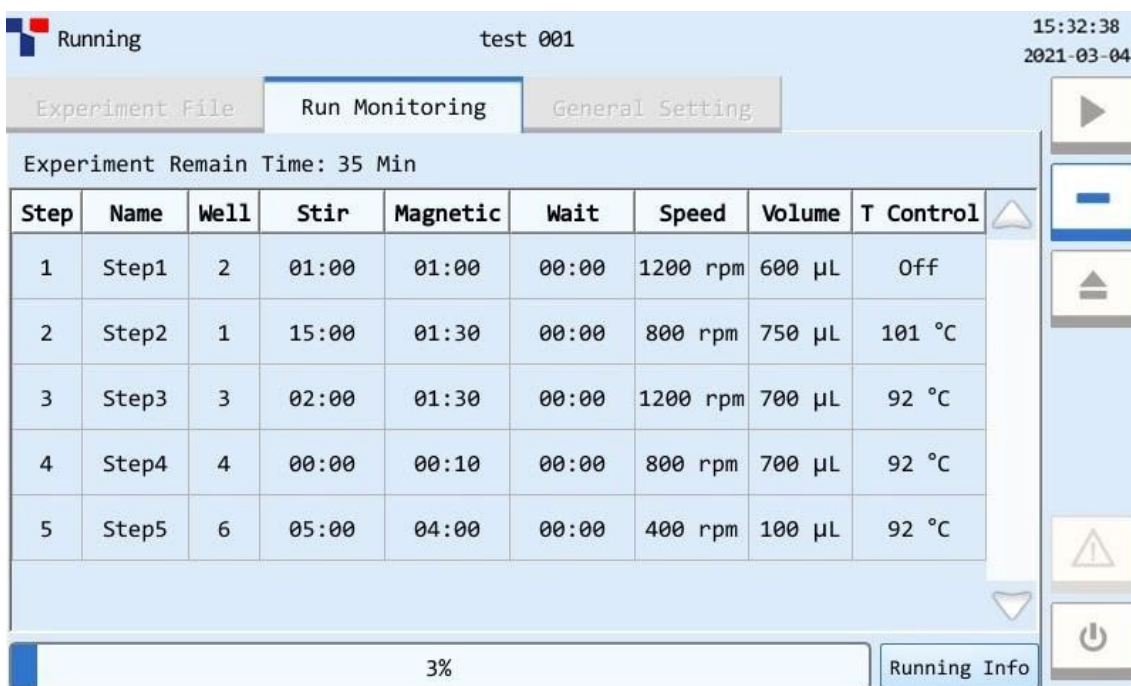

Figure 3-4a. Run Monitoring Tab - Running Information
3. **Experiment Information:** Click < **Expt. Info** > the run monitoring interface will display the remaining experiment time of the current experiment file, the experimental procedure, the parameters of each procedure step and other corresponding experiment information, as shown in Figure 3-4a.